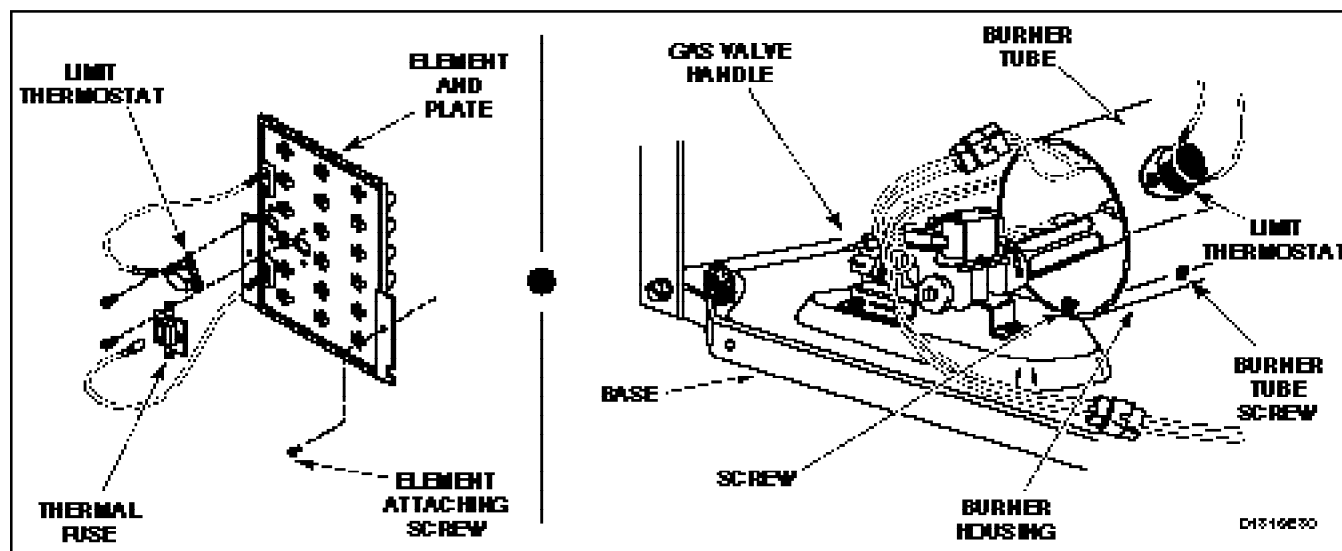

Figure 26
- (1) Remove one screw from right side of burner housing holding burner tube in place, *Figure 26*.
- Remove screw from right side of burner housing, while holding burner tube in place, *Figure 26*.
- Remove screw holding front of burner housing to dryer base and remove housing out through front of dryer, *Figure 26*.
- Disconnect wires and remove screws attaching limit thermostat to burner housing or element plate, *Figure 26*.
- Remove two screws holding element and plate to heater box and pull element down and away from heater box, *Figure 26*.
- Disconnect wires from element and plate, *Figure 26*.
- Remove screws holding thermostat and thermal fuse to element and plate, *Figure 26*.
- Disconnect wires from thermostat/thermistor and heater, *Figure 26*.